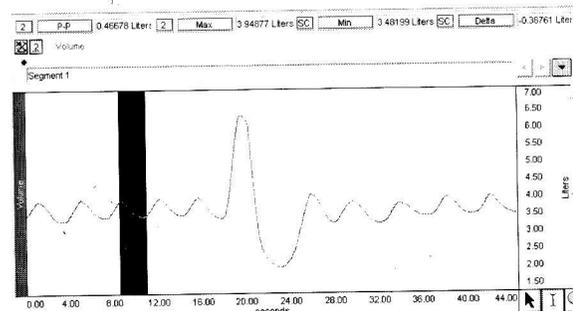

Fig. 12.23 Exhalation of third breath cycle selected to measure P-P
- b) Use the **I-beam** cursor to select the **exhalation** of cycle 3 and note the P-P result (Fig. 12.23). The selected area should be from the peak to the valley of the third cycle.
The P-P measurement in Fig. 12.23 represents the second value required for the averaged TV calculation.